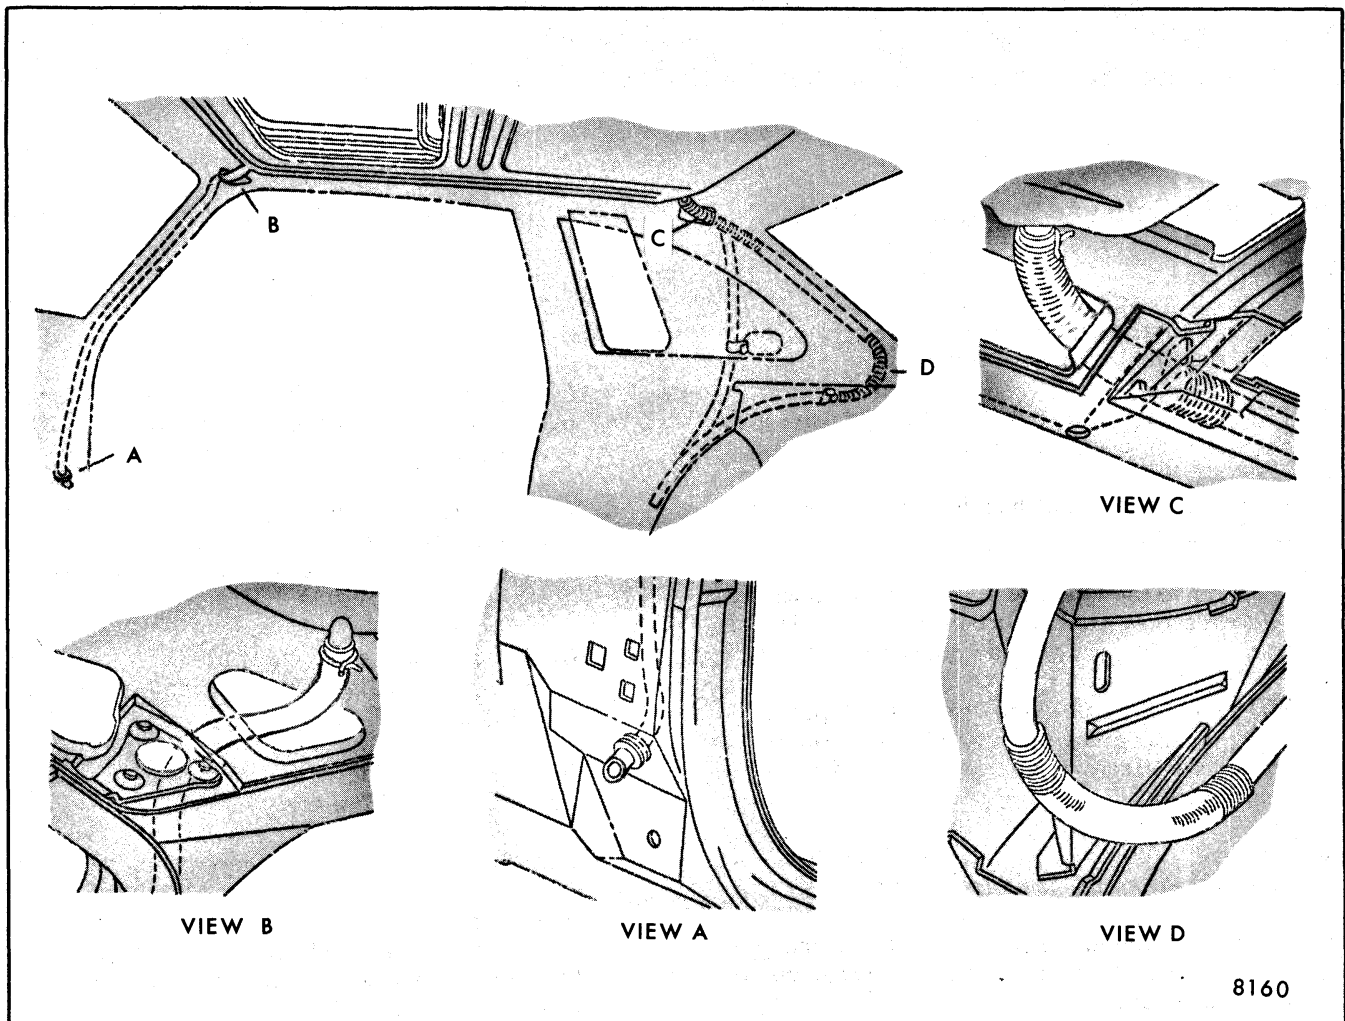

Fig. 8-79-Sun Roof Drain Hose Routing
in the affected area and detach headlining sufficiently to gain access to top of either drain hose (Fig. 8-79).
1. Remove quarter and back window trim moldings, quarter upper trim panel and detach headlining sufficiently to gain access to top of either drain hose (Fig. 8-79).
4. Detach hose from clip at quarter inner panel on "57" styles or wheelhouse pinchweld flange on "37" styles (Fig. 8-79). Without disturbing upper end of hose, pull lower (free end) of hose rearward over wheelhouse on "37" styles or through access hole in quarter inner panel on "57" styles.
5. Tape or tie end of new hose with angle cut to lower end of old hose ("57" styles) and pull new hose into position while removing old hose. On "37" styles pull hose with wire attached rearward and tape or tie new hose to wire and pull new hose into position and install conduit over hose (Fig. 8-79).
8. Route hose as specified and insert in clip at original location (Fig. 8-79).
4. Disconnect four drain hoses at the sun roof housing drain tubes (Fig. 8-79).